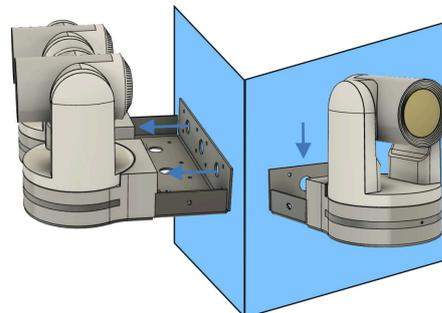

Figure 4: Connecting cables (from behind the wall)
3. Connect all cables to the camera (figure 4). See also 1. Baseplate on page 12. The mount is designed in such a way, that you can release both the mount and the camera, so you have your hands free for connecting the cables.